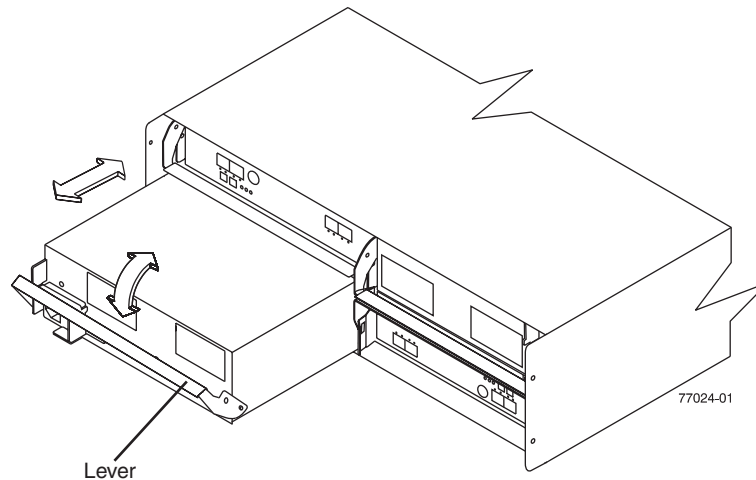

Figure 48. Replacing a power supply-fan
Use the following procedure to replace a power supply-fan. Figure 48 on page 94 illustrates removing and inserting a unit.
11. Slowly pull the lever away from the chassis to remove the power supply-fan, as shown in Figure 48 on page 94.